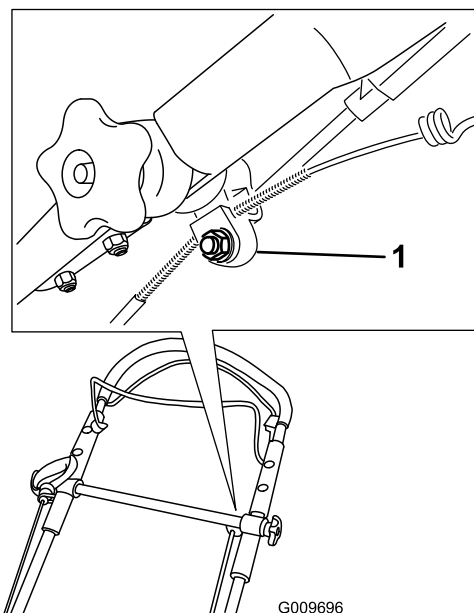

Figure 47
1. Loosen the nut on the cable mount (Figure 47).